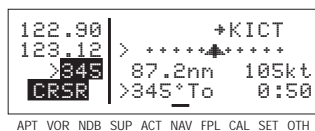

Figure 5-40
3. Press **CLR**. The mode will toggle between Leg and OBS. In the case of OBS mode, the selected course angle will be displayed (figure 5-40).